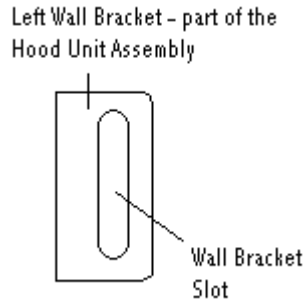

Figure 2:
1. Determine the desired location of your window awning and have a helper hold the Hood Unit in position while you ensure it is level. Once level, use a pencil to mark the outline of the slot in the Left and Right Wall Bracket, as shown in Figure 2 and 2a. Remove the Hood Unit from the wall.